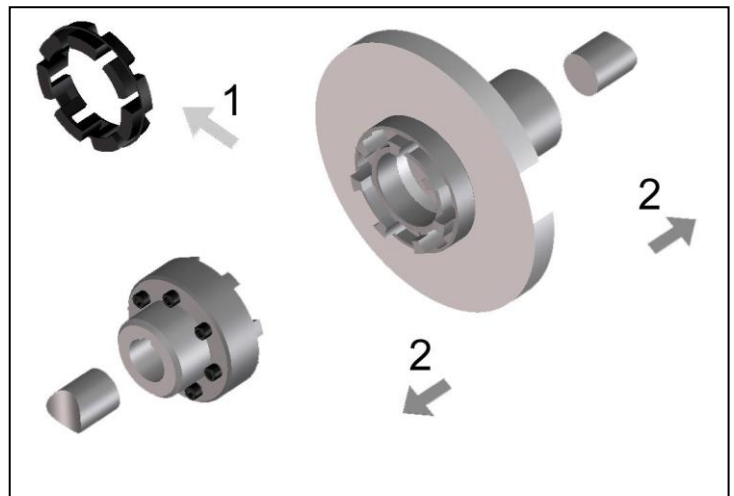

Fig. 3
- Remove the elastic intermediate ring (Fig 3, Pos. 1).
- Pull the flange hubs on to the shaft end in its intended position (Fig 3, Pos.2).